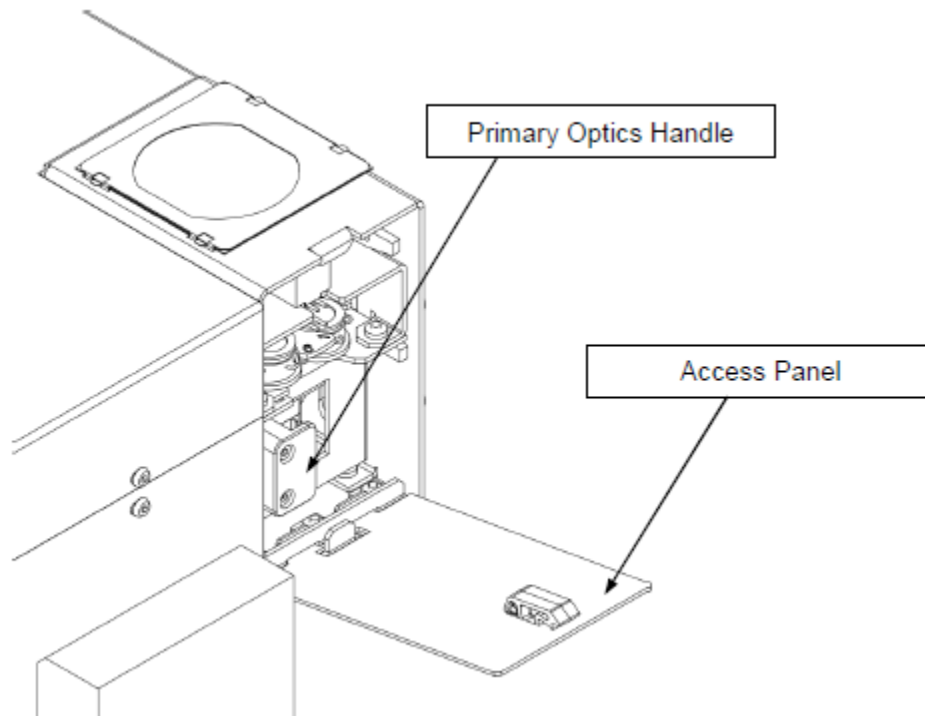

Figure 5-4: Open the Access Panel and Remove the Filter Wheel
12. Press the *Tests* button to present the *Tests* screen (Figure 5-4) which presents a listing of each connected module for which tests can be performed.
2. Open the Primary Optics access Panel on the side rear of the Reader and remove the Primary Optics Assembly by pulling on the handle (Figure 5-4).